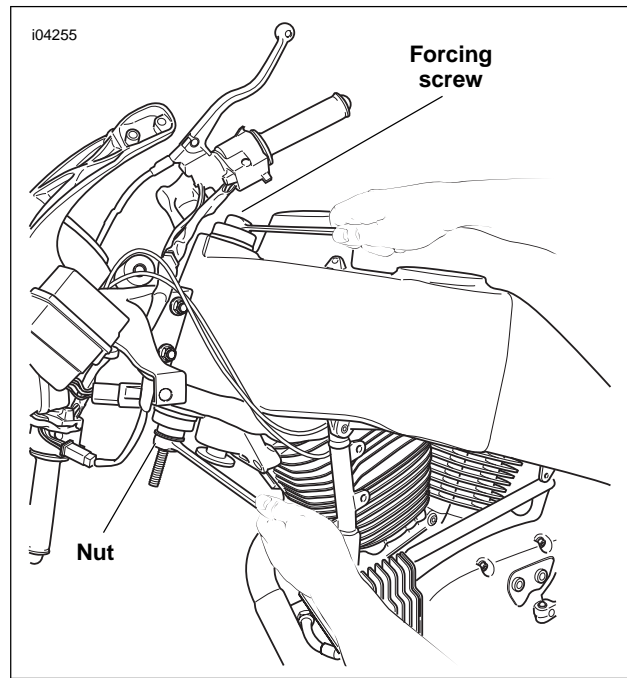

Figure 2-80. Install Bearings
7. See Figure 2-80. Hold the forcing screw while tightening the nut to draw the bearings into the steering head. Continue tightening until both bearings are fully seated.